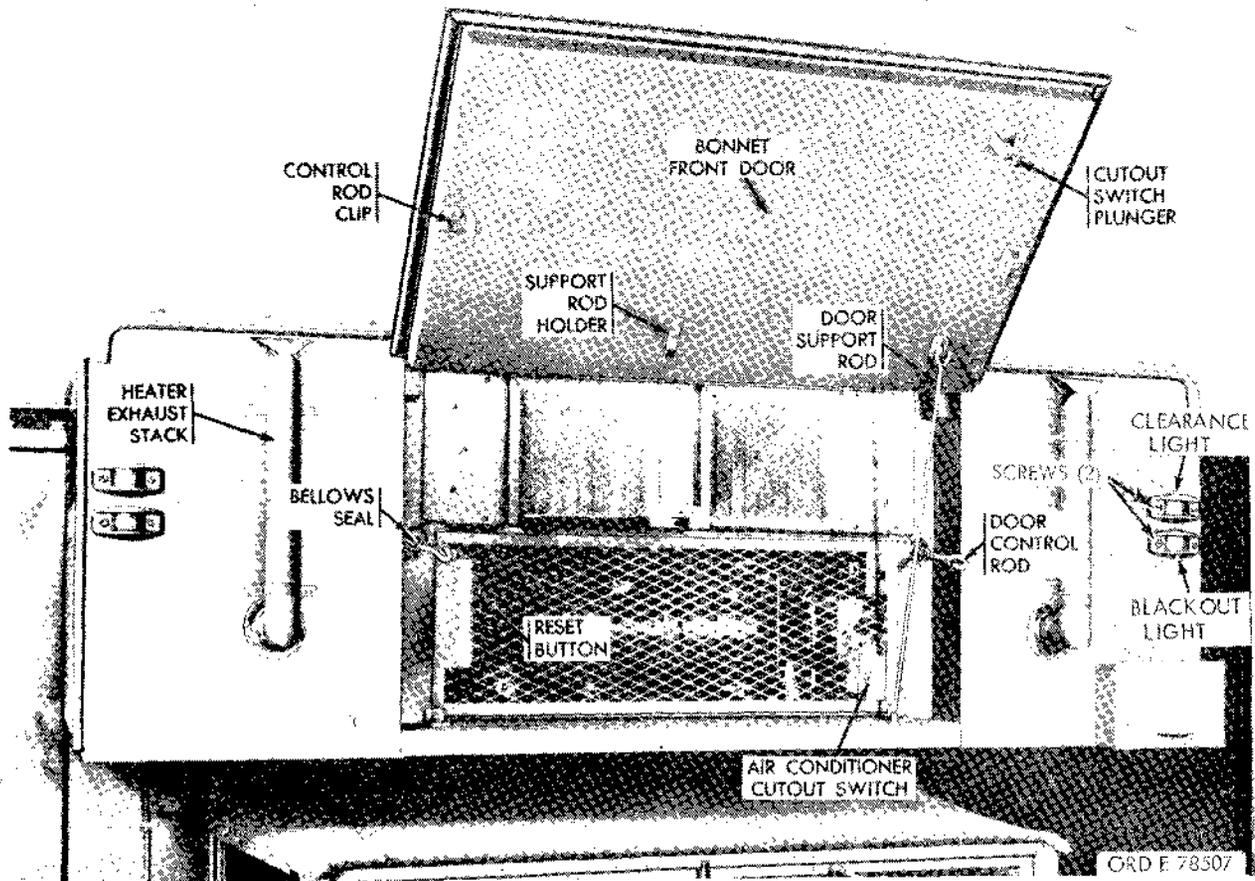

Figure 2-241. Bonnet front door in opened position.
(1) Working inside van, open the bonnet front door with the bonnet front door control handles.
(2) Working outside van, remove the hooked end of the control rod from the control rod clip on the door (fig. 2-241).
(Fig. 2-241.)